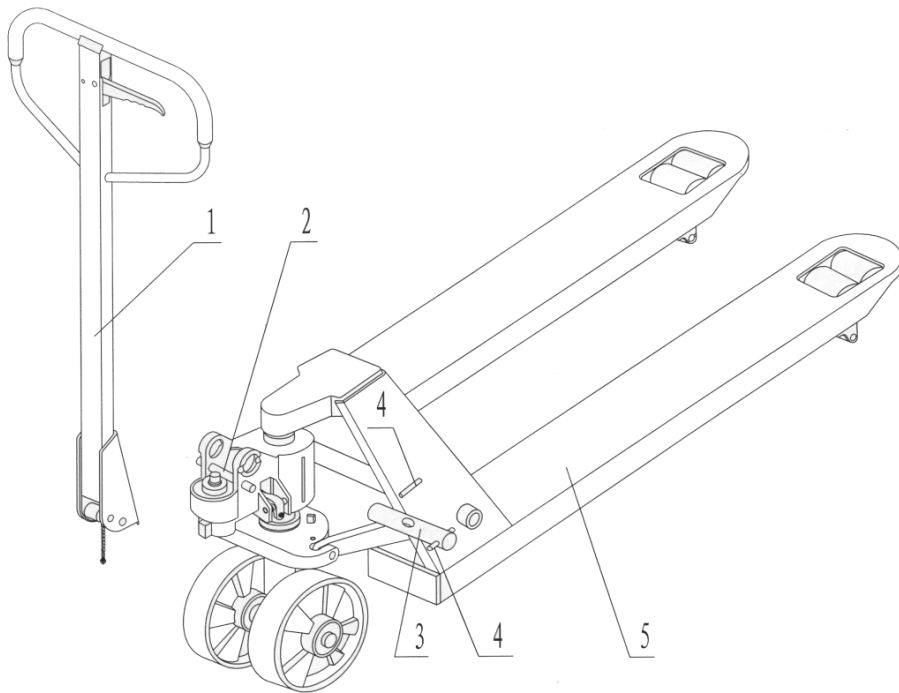

Fig. 1
**2.3** Press the draw-bar (110, 110B or 111G) down, take away the pin (#2) (See Fig. 1).